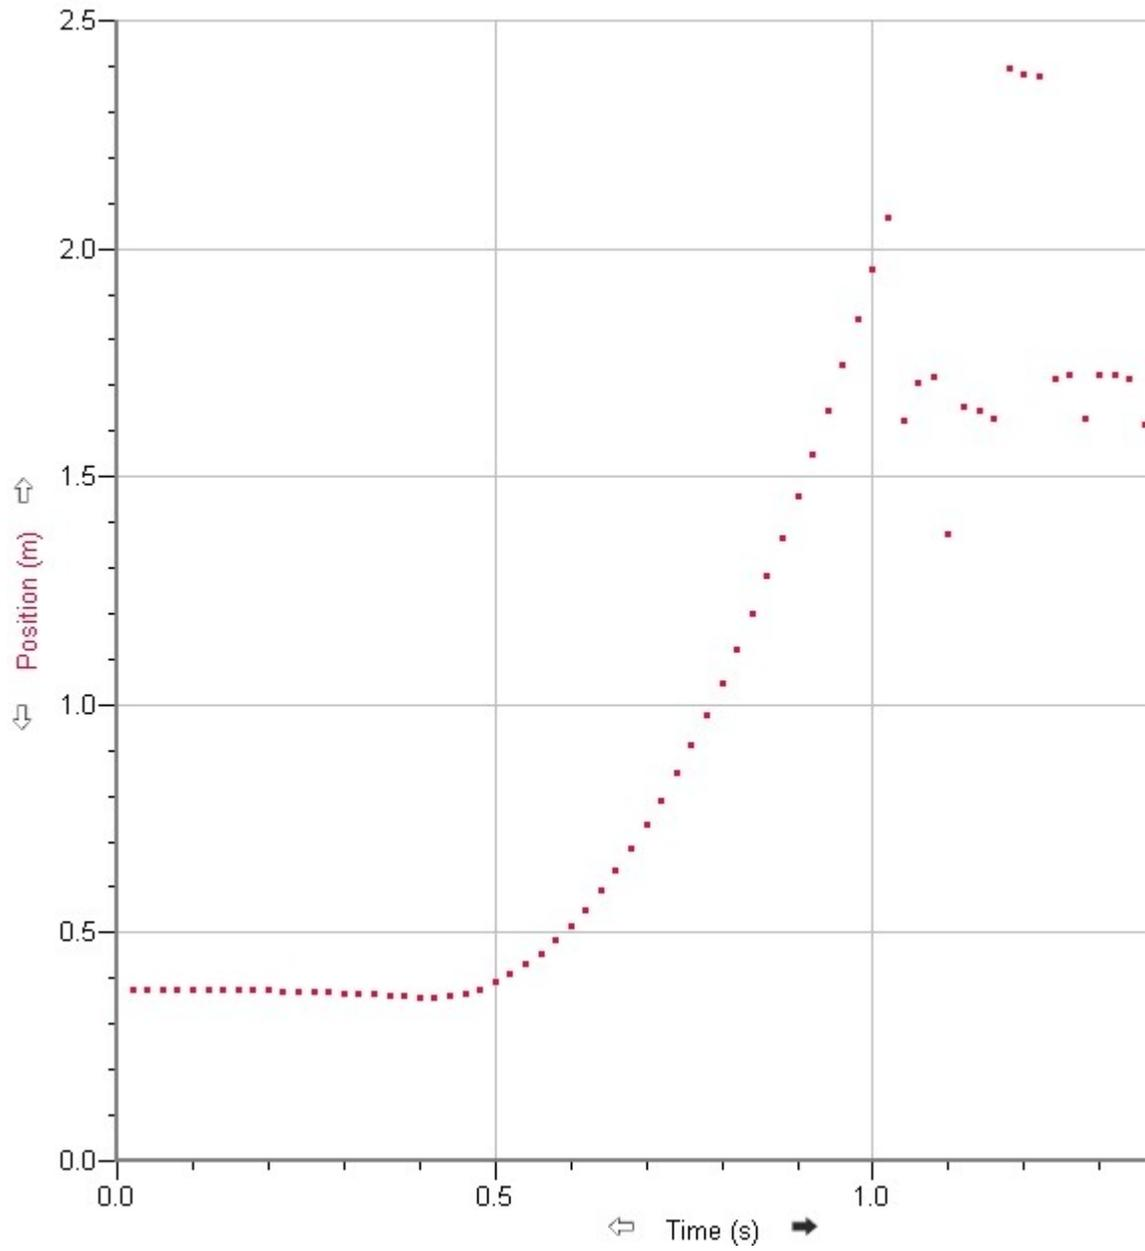
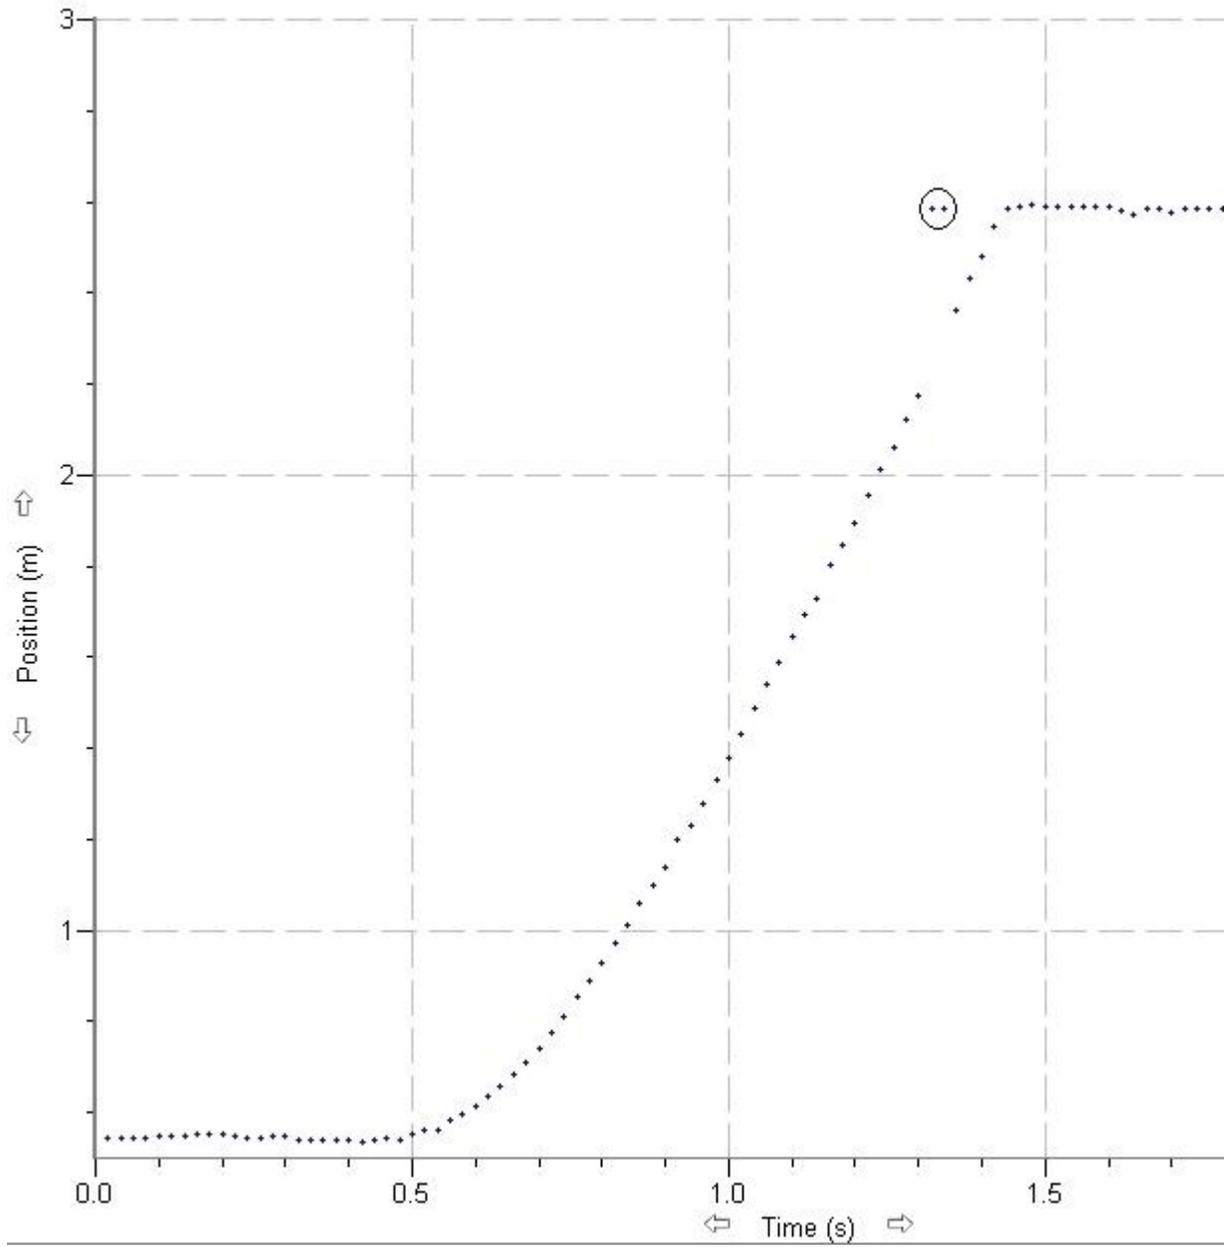

Figure 4: Logger Pro screen capture for a book, showing a parabolic trajectory of Position vs Time
Figure 5: Logger Pro screen capture, showing outlying data points (circled)
4. Start with the phone book. Have one lab partner in position to drop the book along the path of the detector. In the toolbar, click on the  Collect button. You will hear the detector start to click rapidly; now your lab partner should drop the book. Wait for 3 seconds and the detector will stop clicking and you should get a graph that looks something like figure 4. Make sure that the graph shows up as a series of dots, rather than a connected curve. (If it shows up as connected, double-click on the graph to bring up the graph options and uncheck the box marked Connect points.) Note that even though the motion of the book is downward, the position is an increasing function of time on the graph. That is because the variable Position is the distance from the falling object to the sensor, which is located above it and is pointing down.
there are any. See figure 5 and step 8 below for an example. The other thing to do is check the values of t_0 and y_0 calculated by the fit. Are they reasonably close to when it appears you released the book? If not, just start over. If you click on  Collect again, it will wipe out your previous run and take new data.
7. Now move to page 2 of the Logger Pro file using the  Next Page button. Repeat the drop except this time, use a coffee filter instead of the heavy book. As a matter of technique, you might find it helpful to hold the filter on top of your two hands and then quickly move them apart to drop them, as opposed to gripping with your fingers and then releasing. You might see a graph that resembles figure 5, which is qualitatively different from figure 4 in two important ways: first, it shows an object reaching terminal velocity, rather than falling under the influence of just gravity; second, it contains “bad” data points, or outliers.
Look at figure 5 closely. The filter is held in place ($t = 0$ to 0.4 seconds), corresponding to the flat region at the lower left of the graph, before being dropped. It accelerates, corresponding to the upward-curved region starting at $t = 0.5$ s. Eventually, it reaches terminal velocity, leading to the lengthy stretch of graph which looks very linear, from about $t = 0.9$ s to 1.4 s. In this region, there is a bit of a blip, as two data points near $t = 1.3$ s seem to be misplaced. Finally, at $t = 1.4$ s the filter lands on the floor.